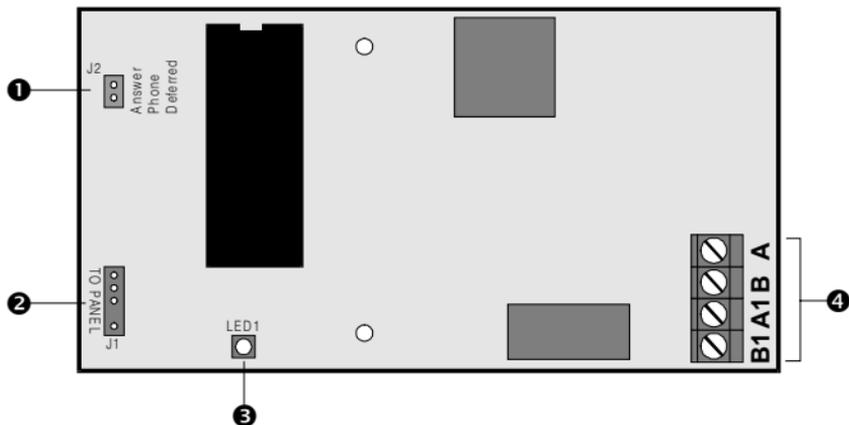

Figure 1. UDL-Modem PCB Layout
- 4) Ensure that the Answer Phone Deferred link “J2” is set for the appropriate setting, see Figure 1.